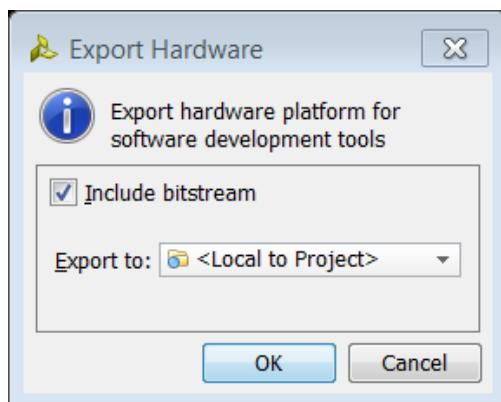

Figure 4-21: **Export Hardware - Include Bitstream**
4. In the Export Hardware dialog box, shown in Figure 4-21, page 82, disable the **Include bitstream** option, as there is no bitstream at this time.